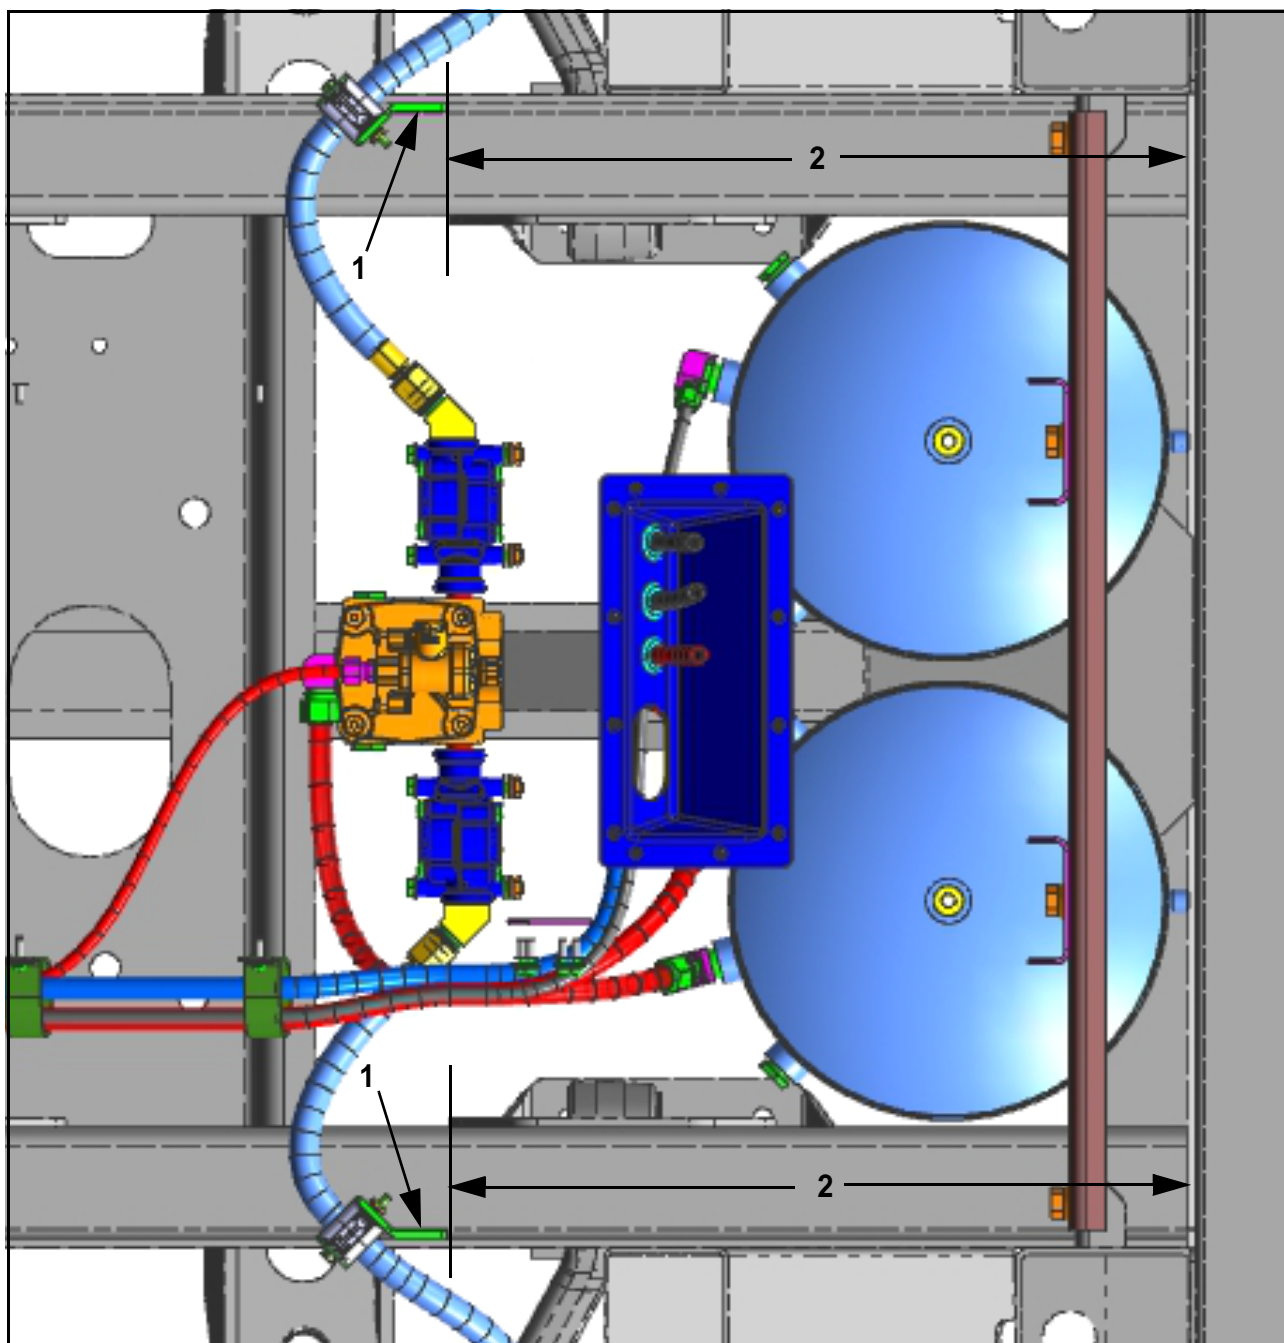

Figure 8. Clamp mount bracket location.
11. Position the new clamp mount bracket, p/n 03-53-1618, on the bogie channel as outlined as Item 1 / Figure 8. Mark a chalk outline around the entire bracket. Remove bracket. Repeat step to opposite side.
Item	Figure 8 Description
25. Route the front brake hose assembly to the clamp mount bracket welded to the bogie channel. Remove and retain clamp assembly and the existing mounting hardware from the old mounting location (replaced by the new welded clamp mount bracket). Mount the clamp assembly and front brake hose assembly to the clamp mount bracket. Tighten clamp to secure the front brake hose assembly in position (refer to Figure 8).